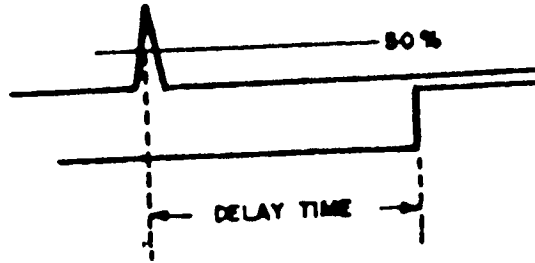

Figure 3. Pulse delay - measurement.
- (2) Position controls as listed in (a) and (b) below.
(3) Adjust **PULSE DELAY VERNIER** control fully ccw. Measure delay between trigger output and pulse at 50 percent amplitude as indicated on oscilloscope. Pulse delay will be less than 35 ns, similar to display on figure 3.